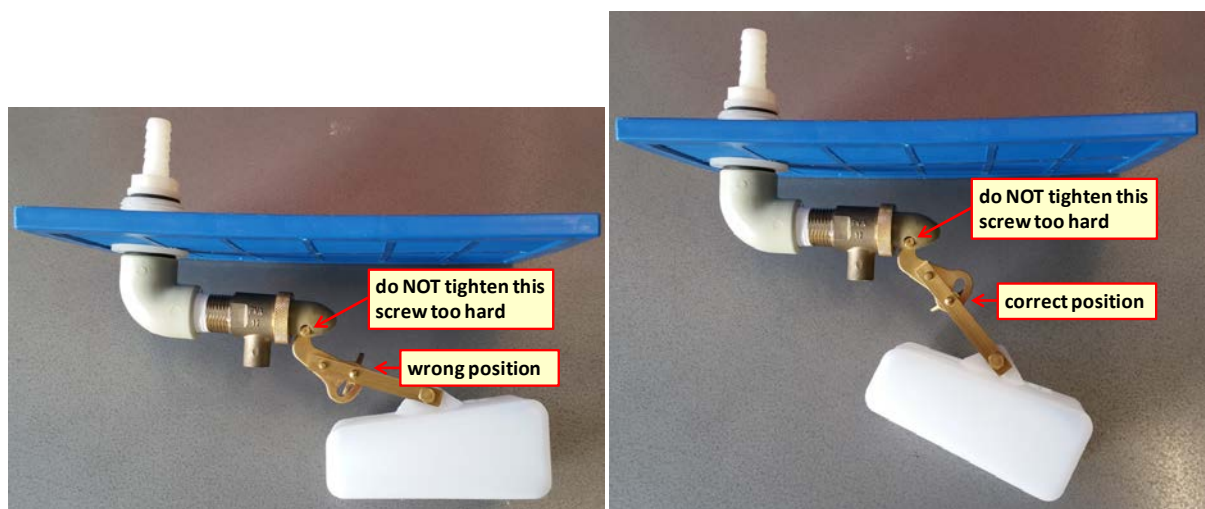

Figure 10: OPV adjustment: wrong position (left) and correct position (right)
Two issues might arise and are important to assure safe unattended use. The float has to be in the right position, and the screw, see Figure 10, must not be tightened too hard.
- OPV in PAUL is blocked or dirty → check OPV and remove dirt. See also chapter 5.1 and Figure 10.